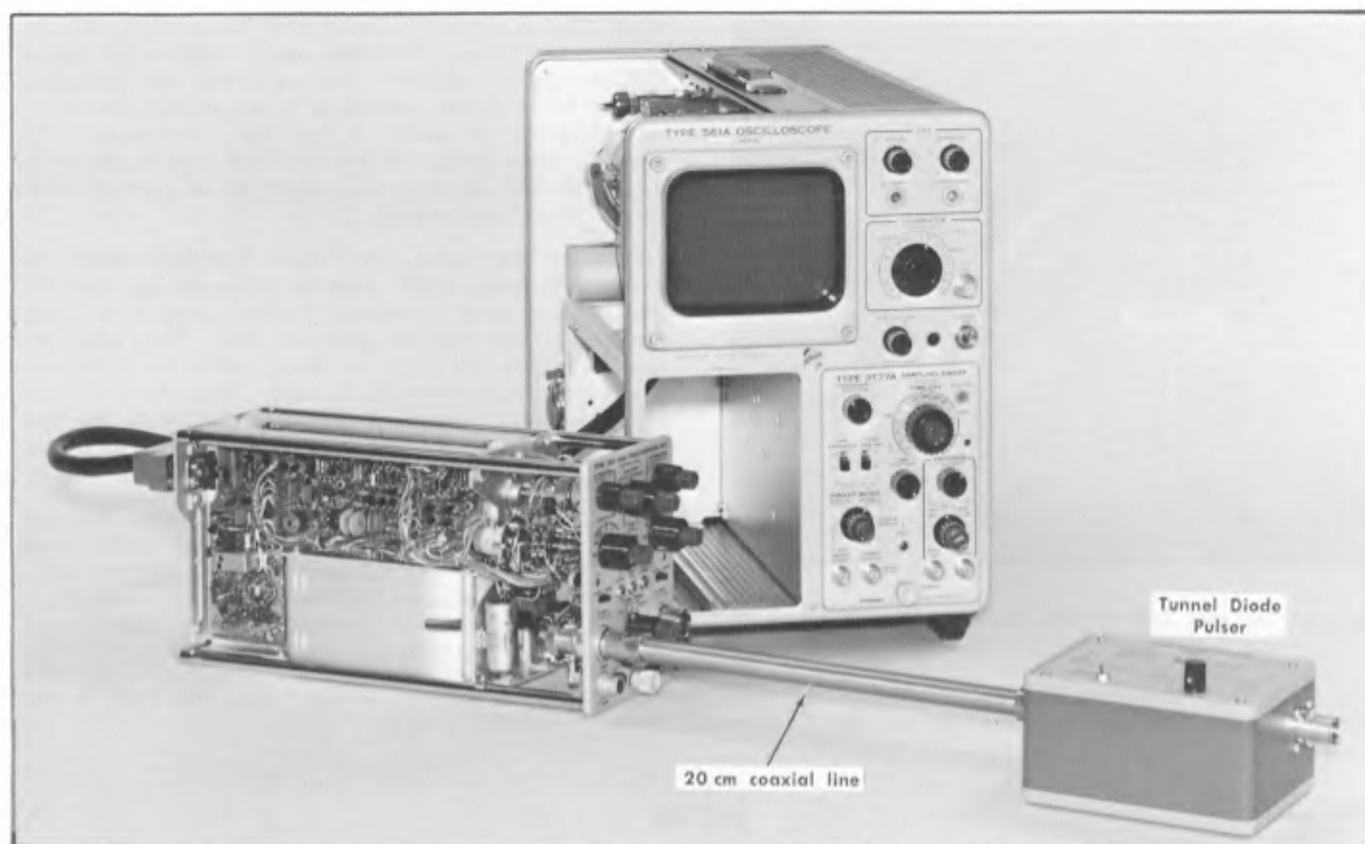

Fig. 8-5. Test equipment setup for Steps 3, 5, 6 and 7.
a. Make the connections and control settings as listed following Fig. 8-5. Make certain that the Indicator Oscillo-